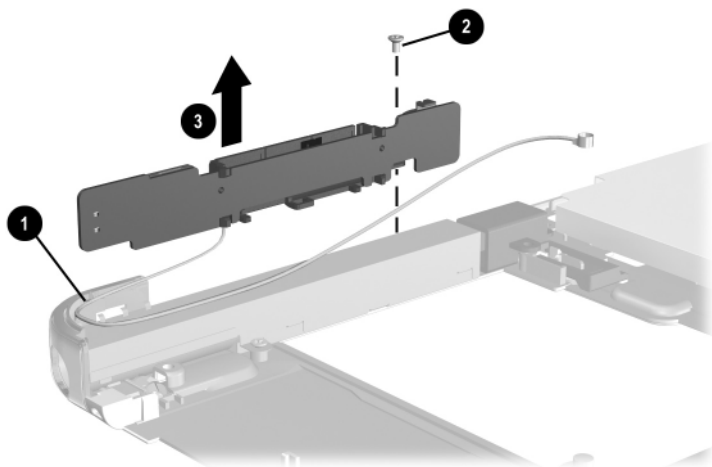

Figure 5-29. Removing the Switch Board
5. Route the wireless LAN antenna cable ❶ out of the clips in the pen holder (Figure 5-29).
6. Remove the PM2.0 × 3.5 screw ❷ that secures the switch board to the base enclosure.
7. Remove the switch board ❸.